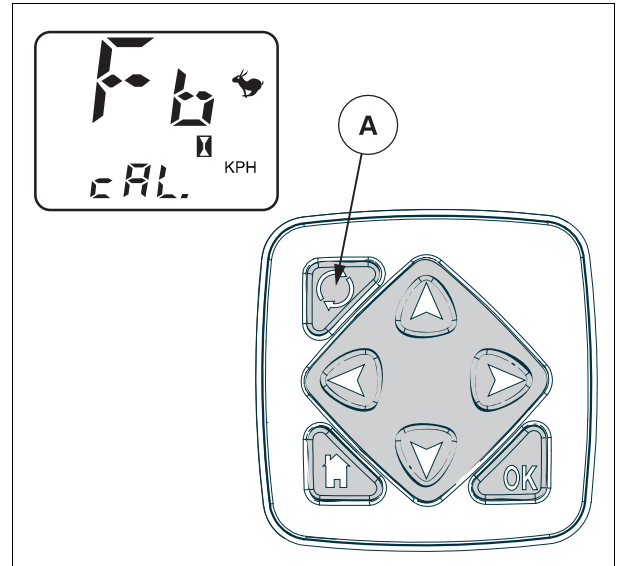

Fig. 42.
3. "CAL" should appear on the screen fig. 42.
5. Press the display selector switch (A) when crossing the starting line of the 100 m (328 ft) course.